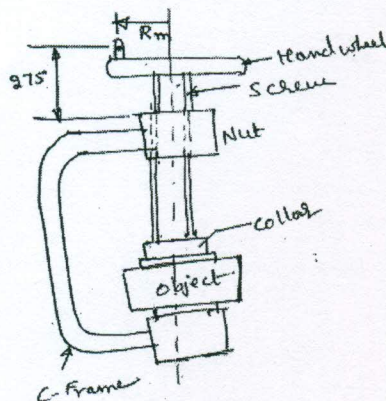

Fig. Q8 (b)
- b. It is required to design a double start screw with square threads for the C-clamp shown in Fig. Q8 (b). The maximum force exerted by the clamp is 5 kN. It is assumed that, operator will exert a force of 250 N at the ball handle of the hand wheel. The screw has a nominal diameter of 22 mm, normal series square threads with 5 mm pitch and is made of 45C8 steel and the nut is made of FG200 cast iron. The mean diameter of collar friction is 12 mm and the bearing pressure between nut and screw may be assumed as 15 MPa. Check whether stress are safe and determine the radius of hand wheel. Assume a thread friction of 0.15 and collar friction as 0.17. (15 Marks)